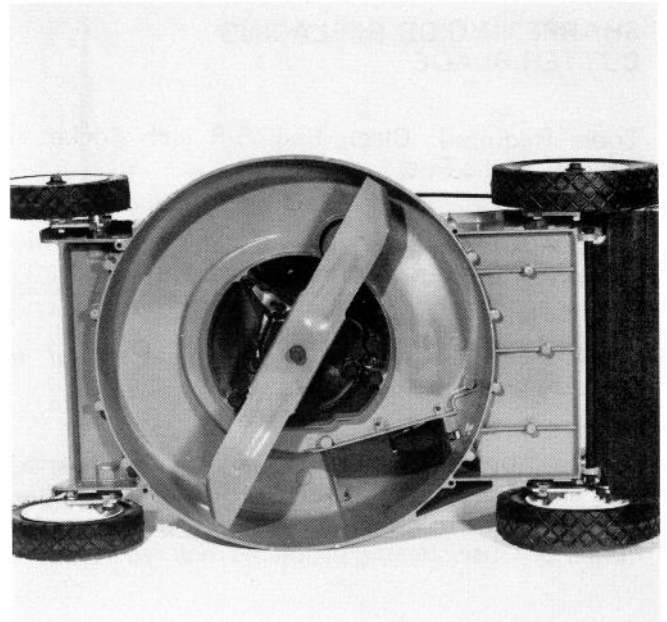

Figure 33
3. Tip mower on its right side (Fig. 33). Avoid rotating the blade when mower is tipped because starting problems may result.